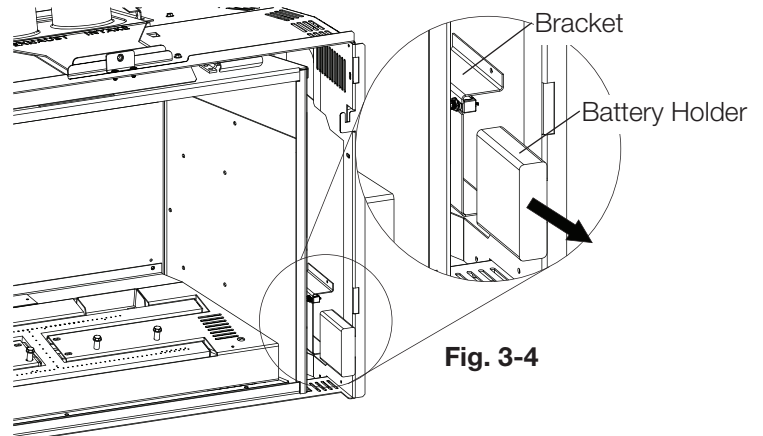

Fig. 3-4
1. Remove battery holder by sliding it forward from the bracket (**Fig. 3-4**).